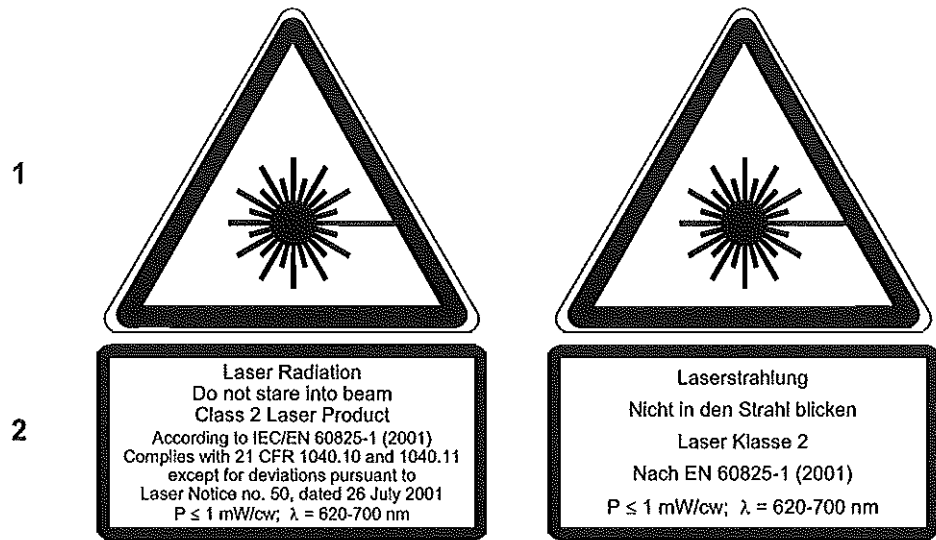

Figure 1.1: Laser warning labels for the scanning head
Warning labels The laser warning label for the scanning head are shown in FIGURE 1.1. For the countries in the European Union (EU), label 2 is affixed in the language of the customer's country (see right-hand-side).